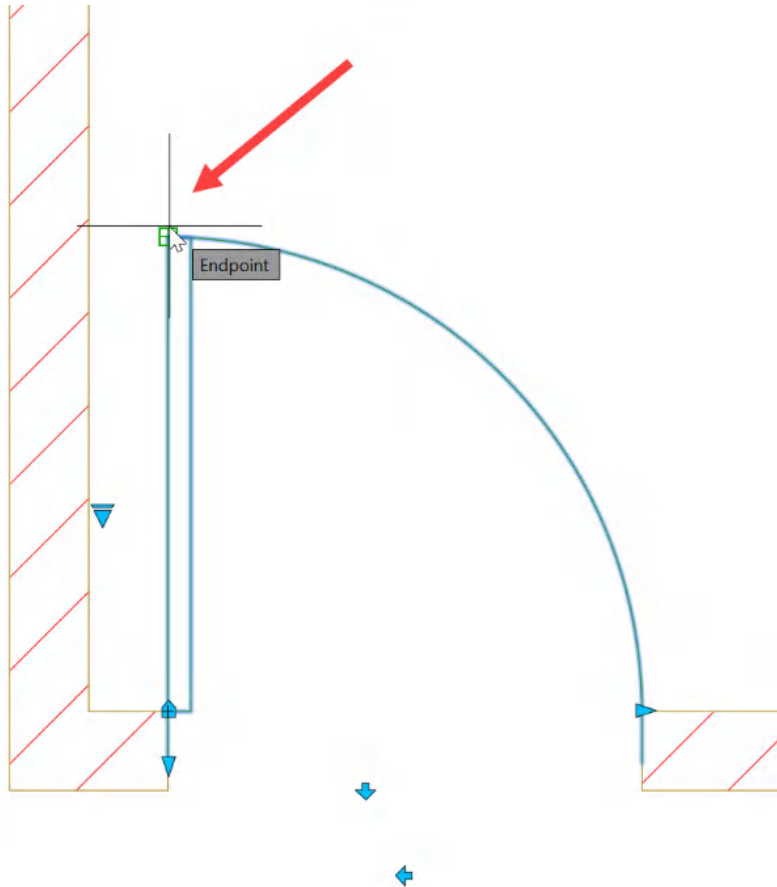

Figure 9.19: The door block selected with the Endpoint object snap
3. At the prompt, select the upper-left **Endpoint** object snap on the door block, as shown in *Figure 9.19*.